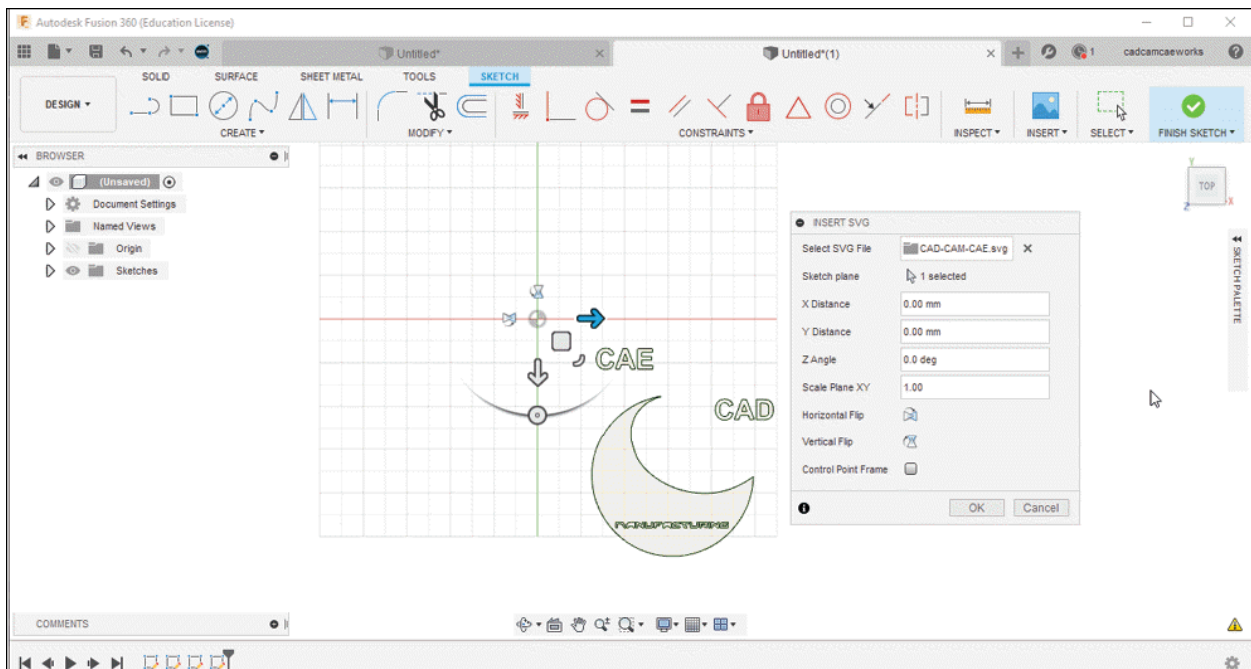

Figure-17. File along with updated INSERT SVG dialog box
- On selecting the face or plane, the sketching environment will be enabled with updated **INSERT SVG** dialog box; refer to Figure-17.